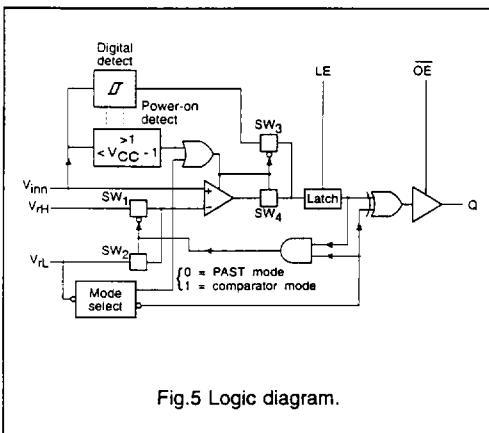

Fig.5 Logic diagram.
2) The comparator mode at which the V_{rL} input must be connected to GND and the V_{rH} input is the active reference level input. In this mode a few resistors must be added to achieve a small hysteresis in order to avoid oscillations. The operation in both modes will be further explained by means of the logic diagram of fig.5.
See fig.5 for logic diagram. The circuit can be applied in two modes that are selected by the mode selector on bases of the level on the V_{rL} input. When the level on
The operation in the PAST mode will be further outlined with the aid of Fig.5 and 9. and table 1. When the level of V_{in} is 0 V the power of the comparator is switched OFF and the output circuit is controlled by the digital detector which output is LOW in that situation. So the output of the transparent latch is LOW. As the output stage is inverting now Q_n is HIGH. In this condition the reference input of the comparator is connected to the $+V_{RH}$ input. When starting from 0 V the level at V_{in} is increased, at about the V_{LL} level (≈ 1 V) the DC power of the comparator is switched ON. The control of the output circuit is switched over from the digital detector output to the comparator output, when after a delay the voltage at this node is stabilised. During this operation the output level of the latch output remains LOW and the level of Q_n HIGH. When the level at V_{in} reaches the V_{RH} level and so the output level of the transparent latch. The level at Q_n turns to LOW. In this instant the reference input of the comparator is switched over from V_{RH} to V_{RL} leaving the output voltage at Q_n constant. When the level at V_{in} reaches the V_{RH} level ($\approx V_{CC} - 1$ V) the DC power of the comparator is switched OFF. The control of the output circuit is switched over from the comparator output to the digital detector output which voltage level is HIGH in this situation. During this action the level at Q_n remains LOW. When the level at the V_{in} input is decreased starting at V_{CC} level, at the V_{HH} level ($\approx V_{CC} - 1$ V) the power of the comparator will be switched on again. The control of the output circuit